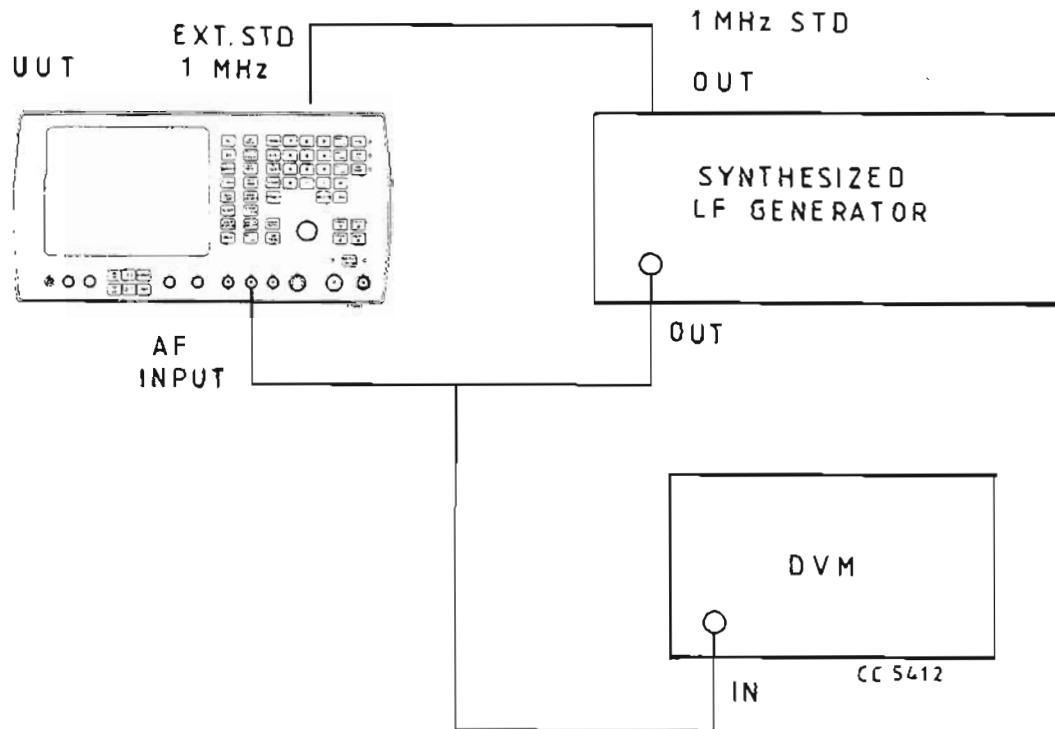

Fig. 11 Test equipment connections for a.f. frequency meter accuracy and sensitivity performance checks
- (1) Connect the equipment as shown in Fig. 11.
- (2) Set the u.u.t. to audio test, distortion off, 50 kHz LOW PASS filter, a.c. coupled.
- (3) Set the synthesized l.f. generator to give a 20 kHz sinewave at 50 mV r.m.s.
- (4) Set the d.v.m. to read a.c. and r.m.s.
- (5) Adjust the l.f. synthesizer output level until the d.v.m. indicates 50 mV.
- (6) Check that the frequency meter on the u.u.t. indicates the frequency set on the synthesizer ± 1 digit ± 0.1 Hz/0.02%.
- (7) Repeat the above for random l.f. synthesizer frequencies between 20 Hz and 20 kHz.